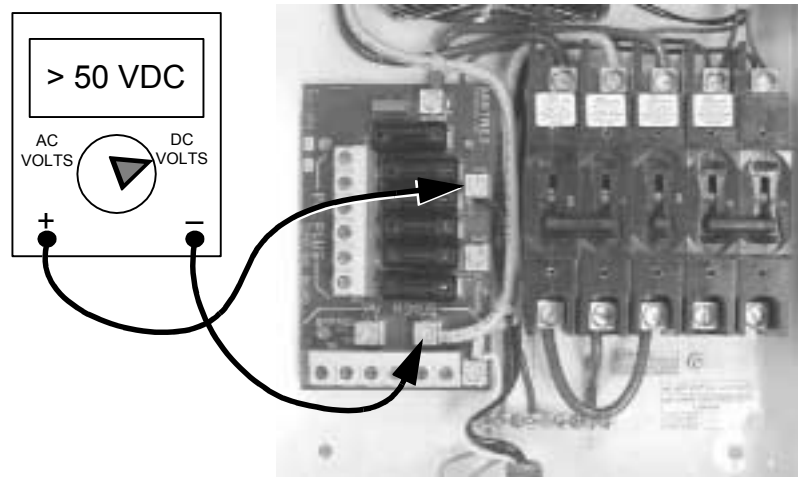

Figure 3-1 PV array DC voltage test
2. Measure the PV array open circuit DC voltage across the DC positive (+) and negative (-) terminals as shown in Figure 3-1. This voltage must be greater than 50 volts DC for 5 minutes minimum to start the inverter.